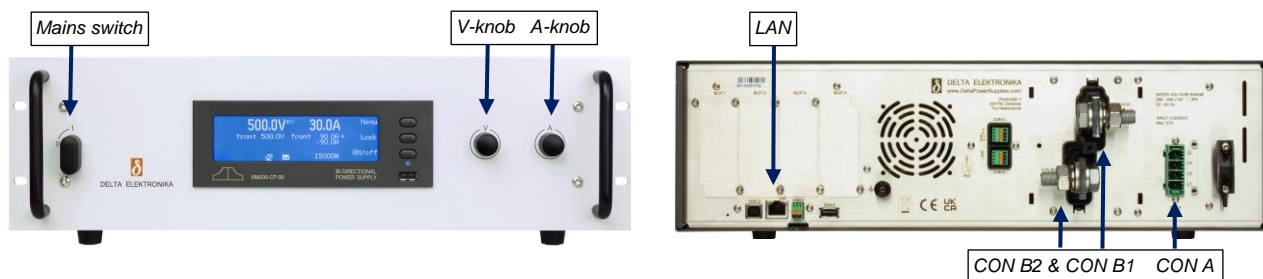

fig 4 - 1 - controls and connections.
- Use the included 4-pole header with the markings L1, L2, L3, PE for connecting the wire to the unit (see fig. 4 - 1).
- These terminals are located at the rear side, marked as CON B1 (PLUS) and CON B2 (MINUS), see fig. 4 - 1.